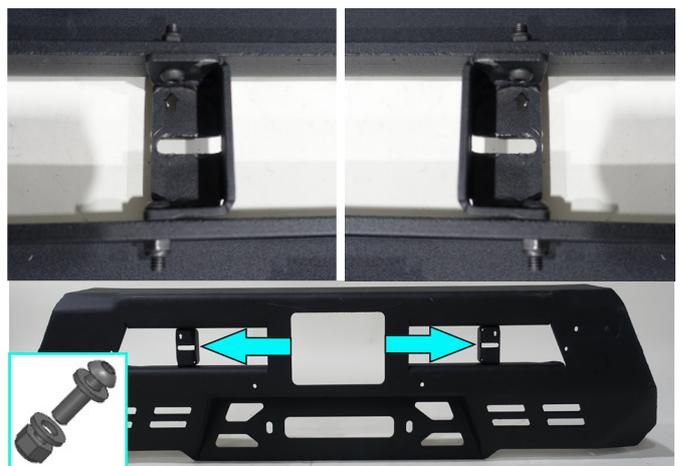

Fig.41
41. Install grille brackets (item 18, 19) as shown in fig. 41. Fix it using screws M6x20, nuts M6 and washers 6 (item A, O, H).